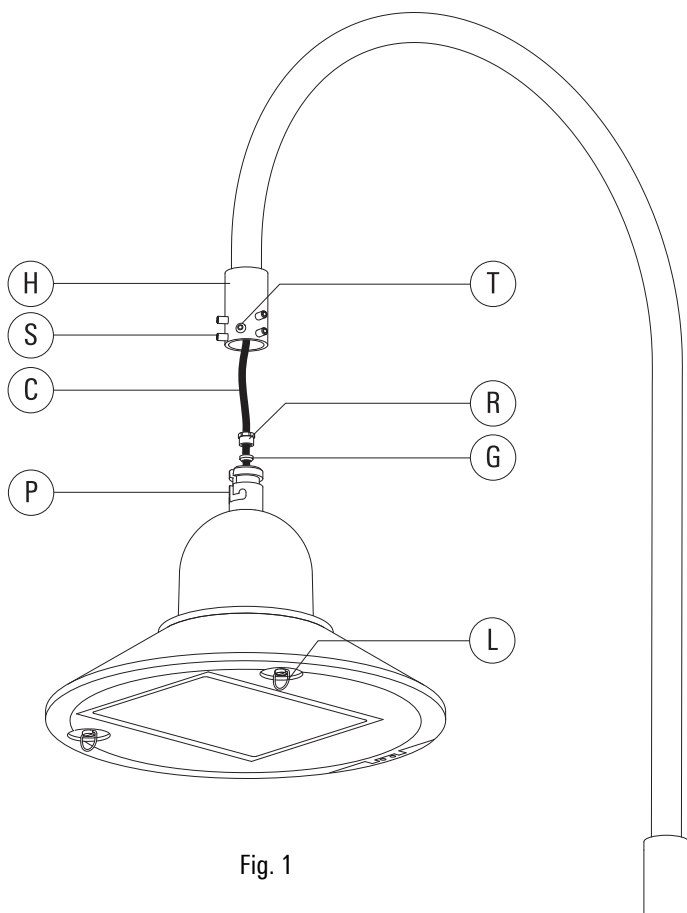

Fig. 1
- 4) As per Fig.1, loosen the locking screws **S** to allow insertion of the spigot **P** into the spigot holder **H**. The support screw **T** should be at a depth to allow mounting of the luminaire without undue resistance.
- 3) Loosen the pressure screw **R** and packing ring **G**. Feed the mains cable **C** through the pressure screw **R** and the packing ring **G** as per Fig. 1.